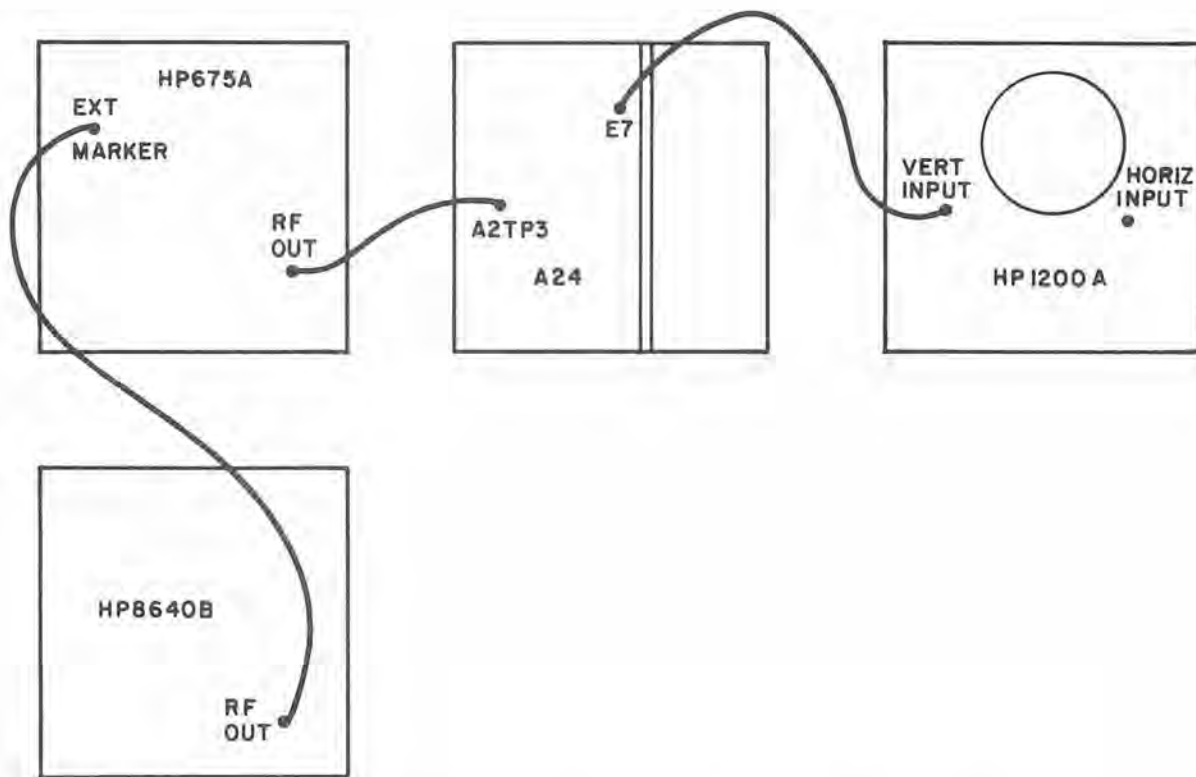

Figure 5-13. A24 Spectrum Monitor 2 MHz IF Amplifier Alignment Test Setup
(1) Apply +20 Vdc to C1 on rear panel.
(2) Connect test equipment as shown on figure 5-13.
(3) Set oscilloscope sensitivity to 50 mV/cm.
(4) Set sweep generator frequency to 2 MHz, sweep width to 300 kHz, and sweep rate to 5 sweeps/second.
(5) Set signal generator frequency to 2 MHz.
(6) Adjust in turn L7, L8, L9, L10, L11, and L13 for maximum output as seen on oscilloscope. The sensitivity should be sufficient to produce a 0.2V p-p trace with generator output at about -47 dBm. The bandwidth at the 3-dB points should be 10 kHz.
(7) Disconnect all test equipment.